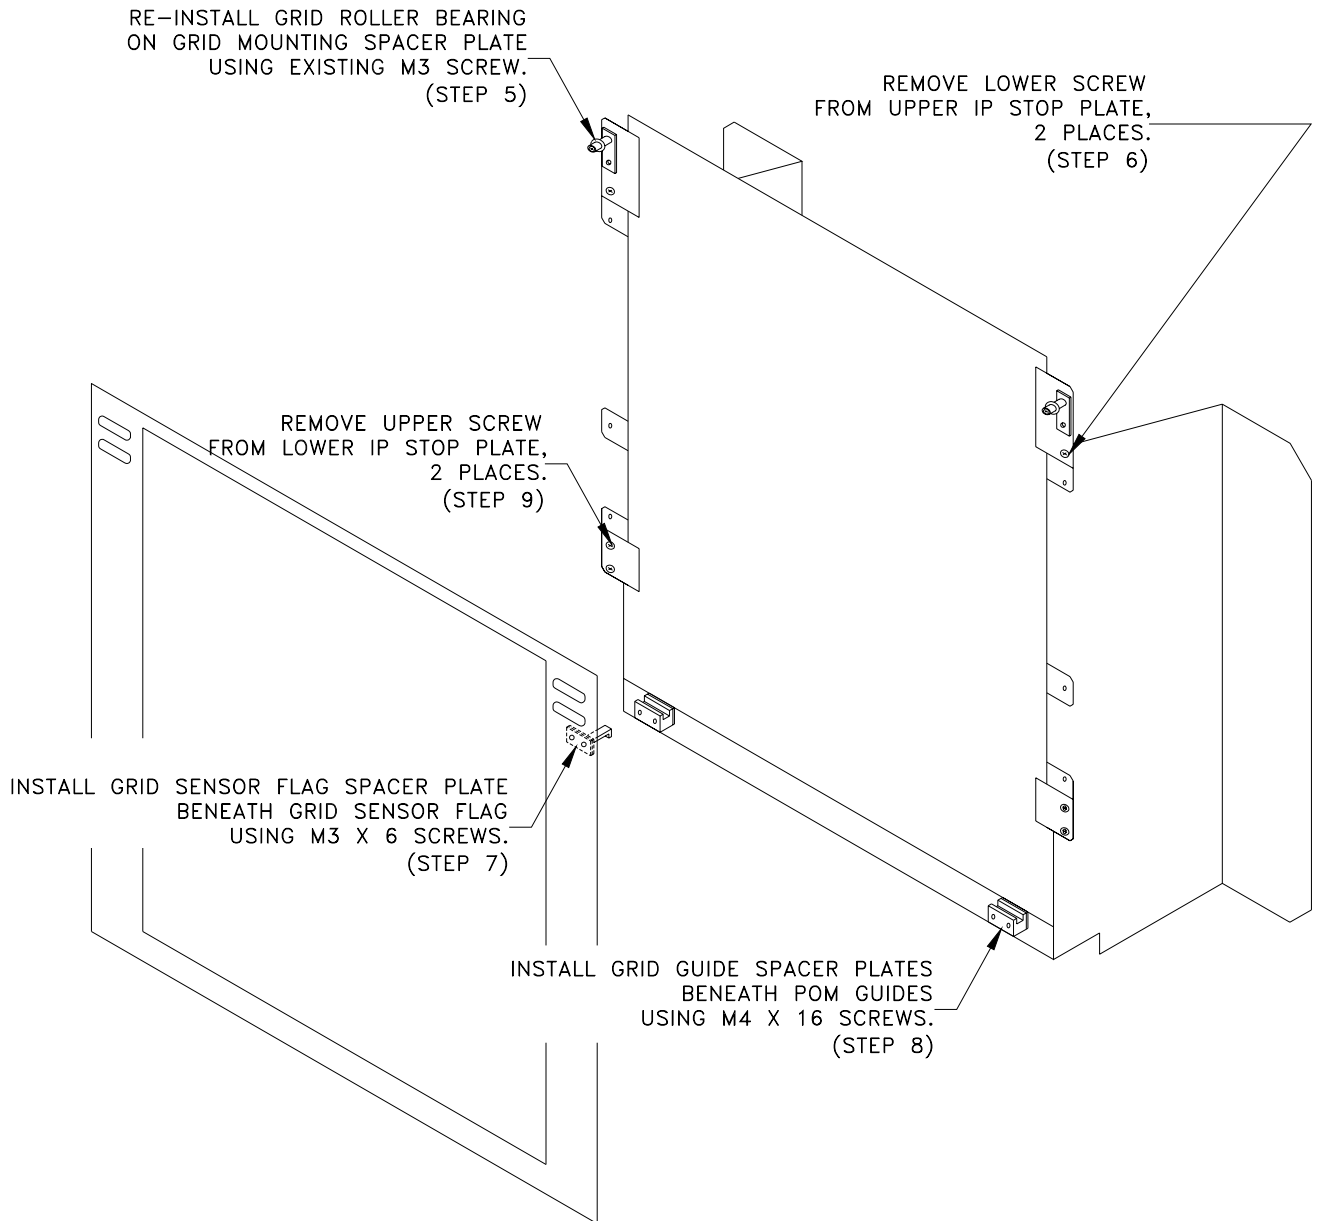

Figure 3
10. When properly installed, the side mounting brackets of the ion chamber sit flush against the IP positioning unit stop plates. Install the ion chamber using the two (2) screws removed in step 6 and the two (2) screws removed in step 9. Use the upper holes of the upper side mounting brackets and the lower holes of the lower side mounting brackets, running the mounting screws through the holes in the stop plates and into the threaded holes of the IP positioning unit. See Figure 3.